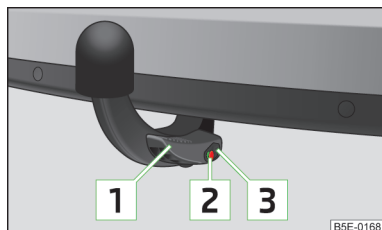

Fig. 149
- ✓ The lever [1] is at the top » Fig. 149.